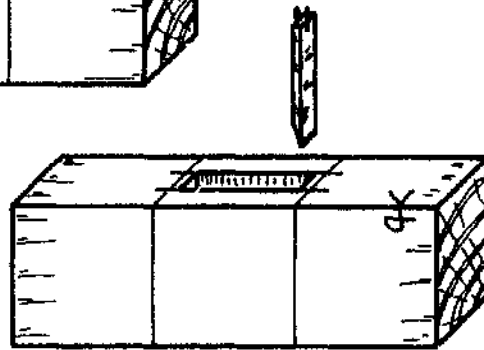

Fig. 7
- Chop out the remaining waste, chiselling halfway through from both edges. Leave about 2 mm extra to prevent damage to the sides of the mortice during chiselling (Fig. 7).